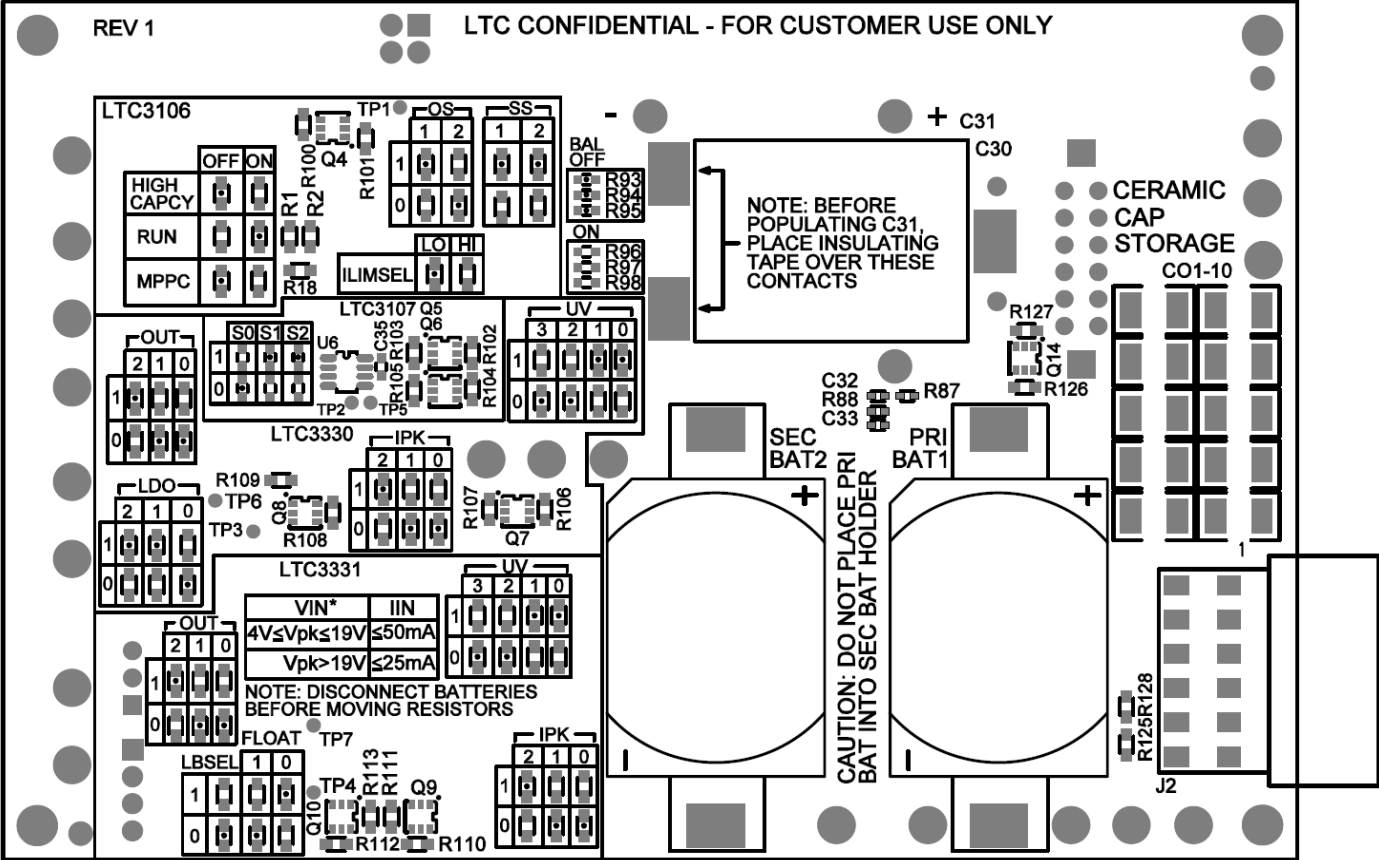

Figure 4. DC2509A Bottom Assembly Drawing
- 1) All 0Ω resistors should be in their default position (see Figure 4, default resistors have dots). Verify that the jumpers and switches are also in their default setting as follows: